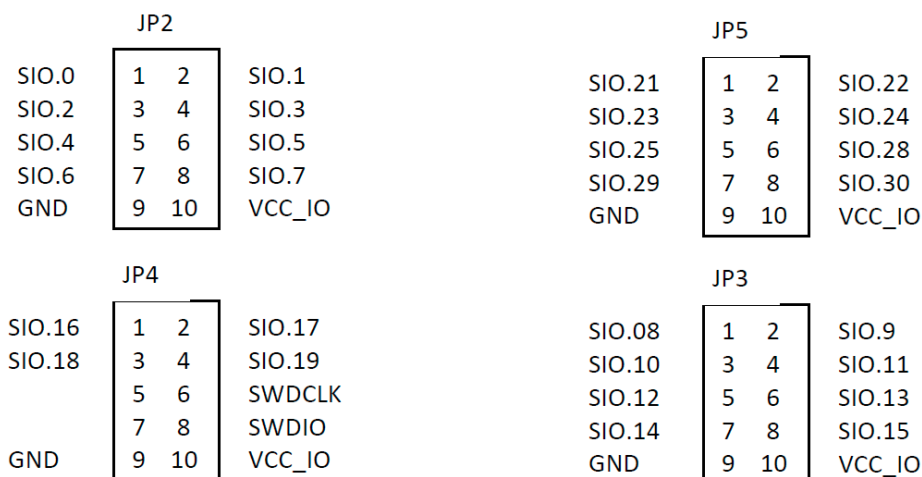

Figure 7: Breakout board connectors
**Note:** The orientation of the breakout connectors (shown in Figure 7) is viewed with the development board in a portrait position with the BL600 series module on the top edge.